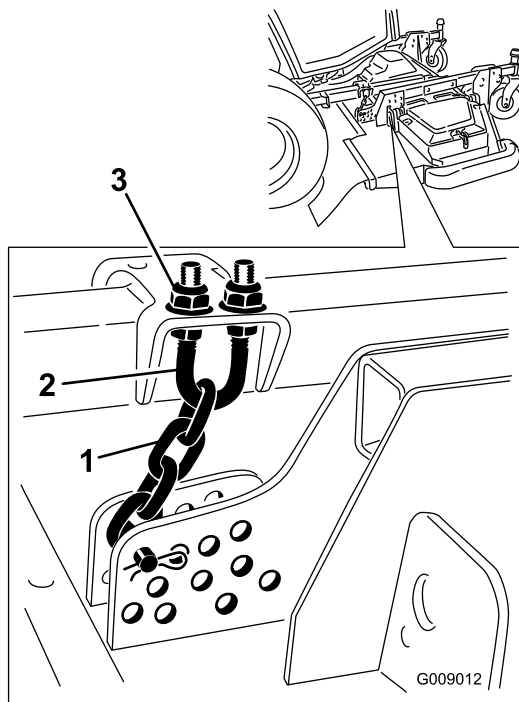

Figure 94
5. Loosen the jam nuts on the top or bottom of the height-of-cut chain U-bolt (Figure 94).